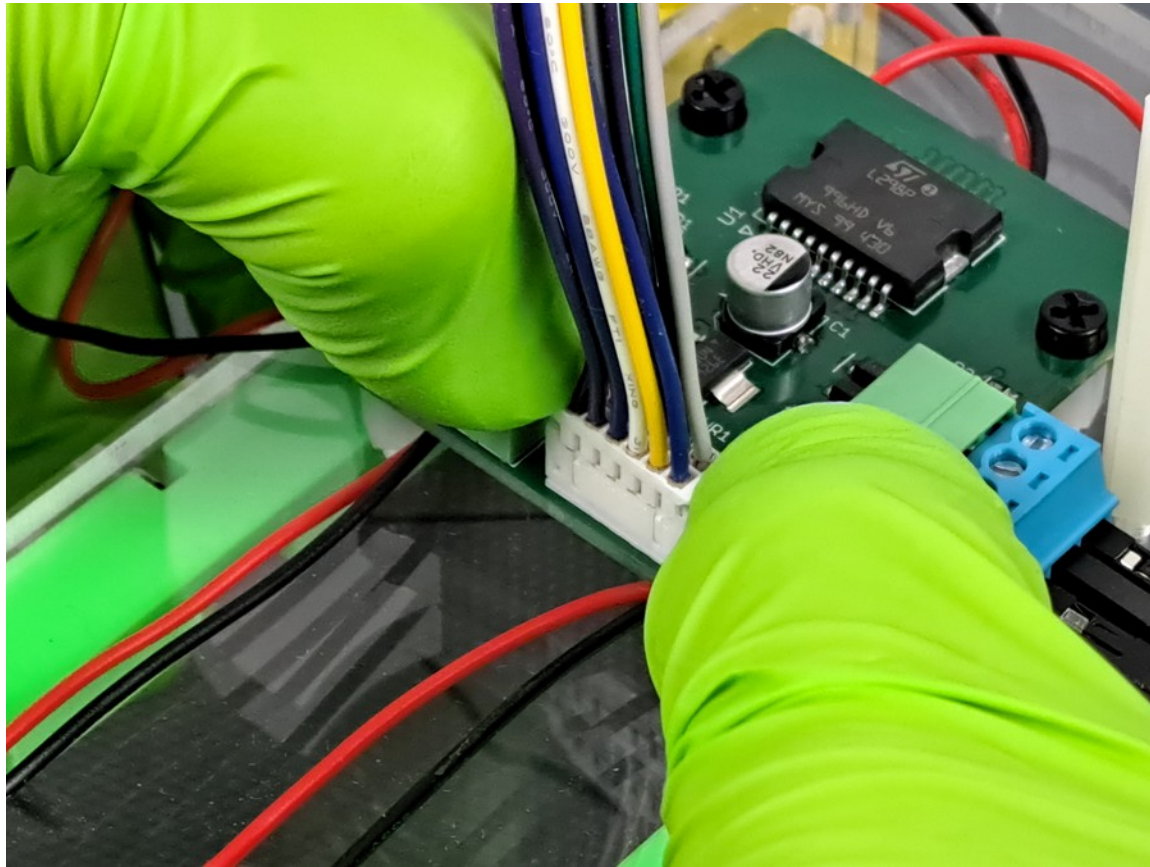

Figure 10 – Seating signal cable into header
**10. Gently apply force to completely seat the signal cable into the header as shown in figure 10 above.**